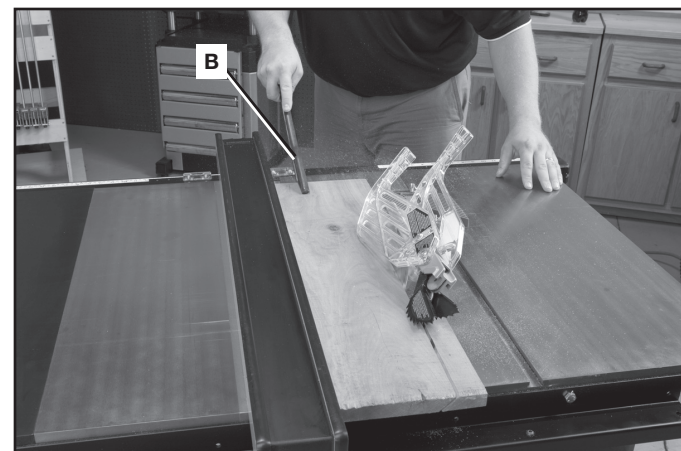

FIG. 56
It is unsafe to rip small pieces. It is not safe to put your hands close to the blade. Instead, rip a larger piece to obtain the desired piece. When a small width is to be ripped and the hand cannot be safely put between the blade and the rip fence, use one or more push sticks. A pattern is included at the end of this manual to make push sticks. A push stick (B) Fig. 56 is included with this saw. Use the push stick(s) to hold the workpiece against the table and fence, and push the workpiece fully past the blade. See Fig. 56.